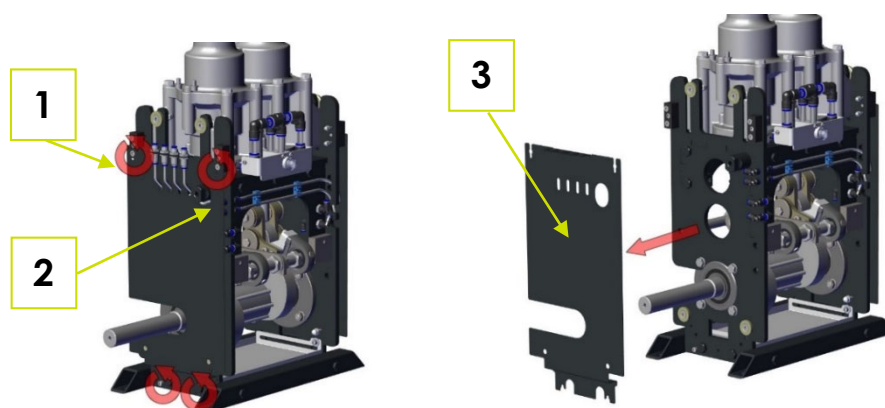

Fig. 4-8: Dismounting the drive cover
1. On the rear of the Piston pump (Fig. 4-8: Dismounting the drive cover) unscrew the four hexagon socket screws M6x50 (1) 5 turns using a 4 mm Allen key (🔄).
2. Disconnect the grease lines (2) from the push-in fittings.
3. Pull off the drive cover (3) in the direction of the arrow (Fig. 4-8: Dismounting the drive cover).